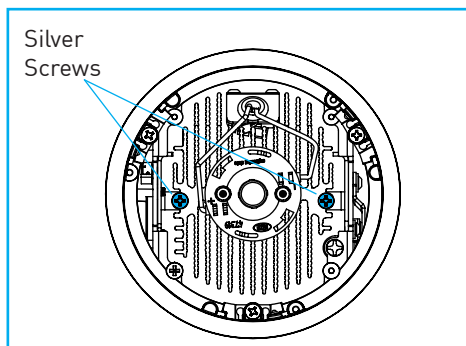

Fig.24
- Using standard Phillips-head screwdriver, remove 2 silver screws from black heat sink to detach LED engine from trim *"Fig.24"*.
- Applying upward pressure to support weight of LED engine, use standard Phillips-head screwdriver, remove 2 silver screws from black heat sink to detach LED engine from trim *"Fig.24"*.